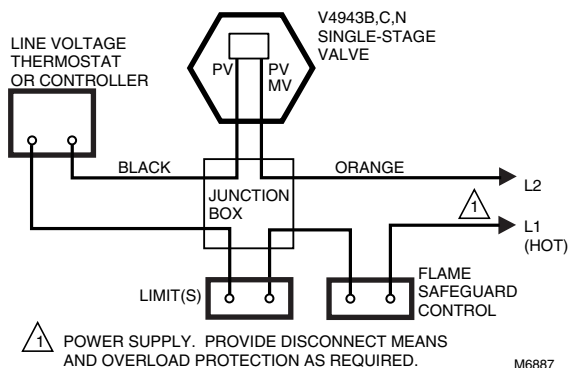

Fig. 11. Typical wiring diagram for V4943B,N.
7. Make electrical connections as illustrated in the wiring diagrams (see Fig. 11–14).
5. See Fig. 11 through 14 for typical field wiring connections. Follow the burner manufacturer wiring diagram, if provided.